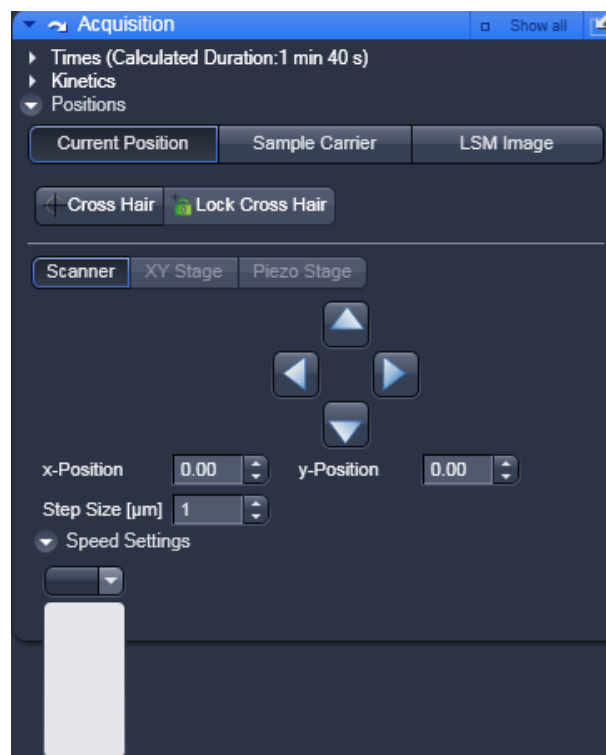

Fig. 43 Current Positions panel
- Click on the **Position** tab to open the **Position** panel (Fig. 43). Click again to close the panel.